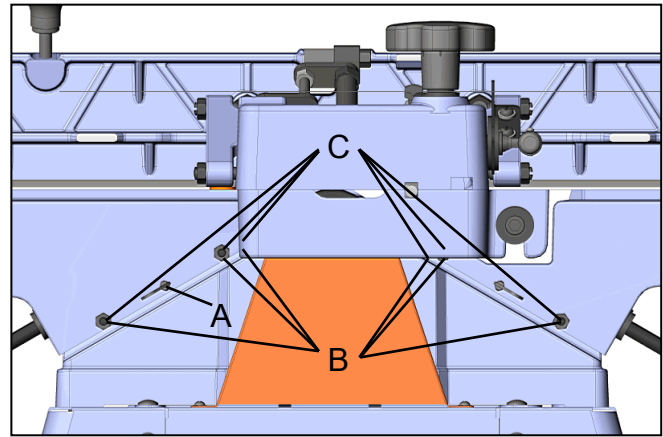

Fig. 7
1. Lightly loosen the 2 wing screw (A), Fig. 7. By loosening 6 lock nuts (B) then tighten 6 Set screws (C), should be loose enough to move the table.